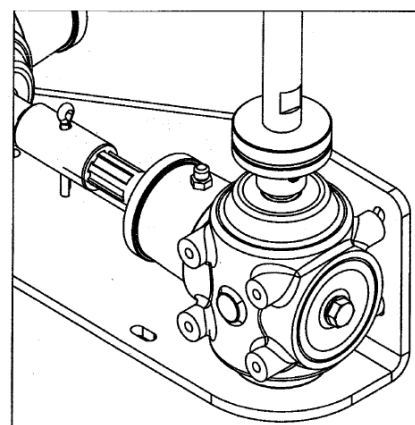

Fig. 32
- c) Refit the agitators without the discs (Fig. 32);